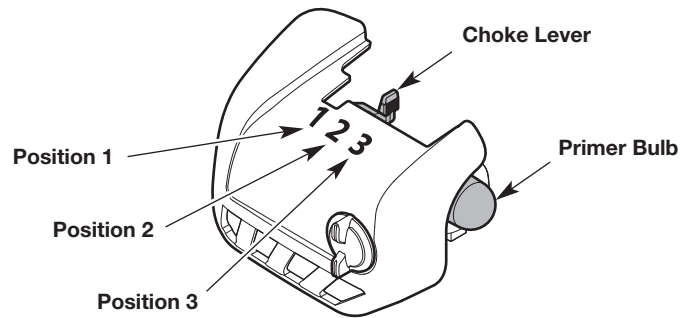

Fig. 14
1. Slowly press and release the primer bulb **10 times** (Fig. 14). If fuel cannot be seen in the primer bulb, press and release the primer bulb until fuel is visible.
2. Move the choke lever to **Position 1** (Fig. 14).
6. Move the choke lever to **Position 2** (Fig. 14).
9. Move the choke lever to **Position 3** (Fig. 14). Allow the engine to warm up for an additional 60 seconds. The unit may be used during this time.
**IF...** the engine hesitates, return the choke lever to **Position 2** (Fig. 14) and continue the warm-up.